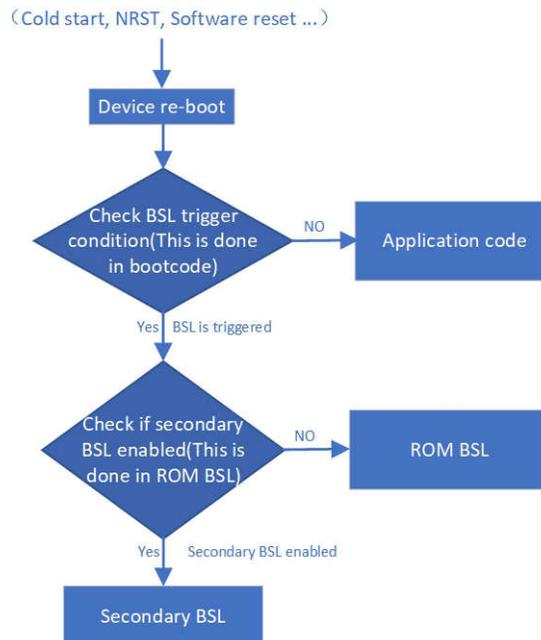

Figure 1-7. Secondary BSL Execute Flow
- For the secondary BSL start from 0x1000, you can put it anywhere in the flash except 0x0. Because the application code must start from the 0x0 address. In this condition when device power up or reseted, it checks the BSL invoke condition in the bootcode the decide run application code or BSL code. The demo reused the ROM-based BSL's trigger resources. (Both hardware, software and blank device detection, more information please refer to section 3.2 of *MSPM0 Bootloader User's Guide*). Figure 1-7 shows the secondary BSL demo executed flow.